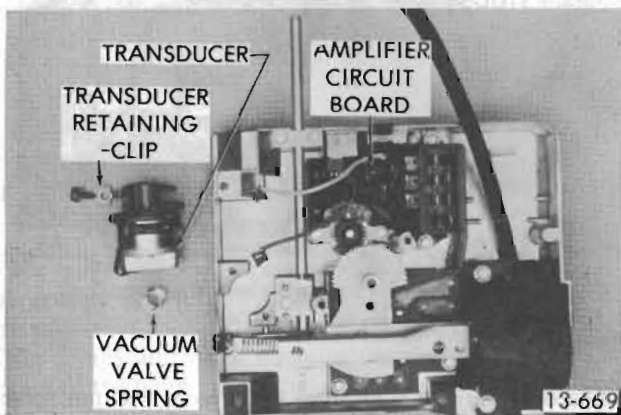

Figure 13-127 Transducer - Removed
2. Disconnect and identify two (2) electrical terminals to transducer.
4. To replace, reverse removal procedure. Refer to Figure 13-127.